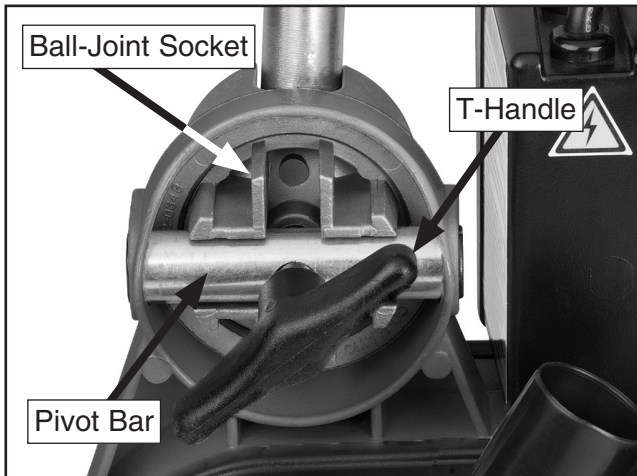

Figure 8. Assembled ball joint assembly.
6. Align the ball-joint socket with the power feeder socket and insert the pivot bar as shown in **Figure 8**.
8. Thread the T-handle through the pivot bar so the end of the T-handle bolt presses against the ball-joint socket firmly (see **Figure 8**).